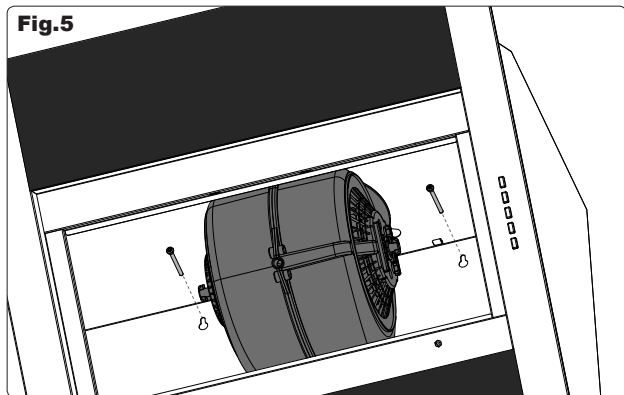

Fig.6
- Fasten the cooker hood using the fastening drill holes **B** (fig.6).